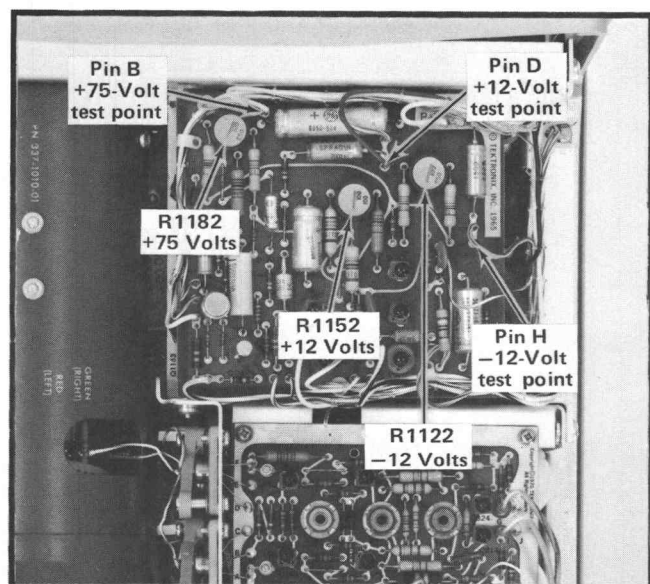

Fig. 5-2. Low-voltage power supply test points and adjustments (Low-Voltage Regulator circuit board).
- b. Connect the precision DC voltmeter between the —12-volt test point (see Fig. 5-2) and chassis ground.
- d. ADJUST— —12-Volts adjustment R1122 (see Fig. 5-2) for a meter reading of exactly —12 volts.
- d. ADJUST— +12 Volts adjustment R1152 (see Fig. 5-2) for a meter reading of exactly +1 volt.
- f. Connect the precision DC voltmeter between the +12-volt test point (see Fig. 5-2) and chassis ground.
a. Connect the precision DC voltmeter between the +75-volt test point (see Fig. 5-2) and chassis ground.
c. ADJUST— +75 Volts adjustment R1182 (see Fig. 5-2) for a meter reading of exactly +75 volts.